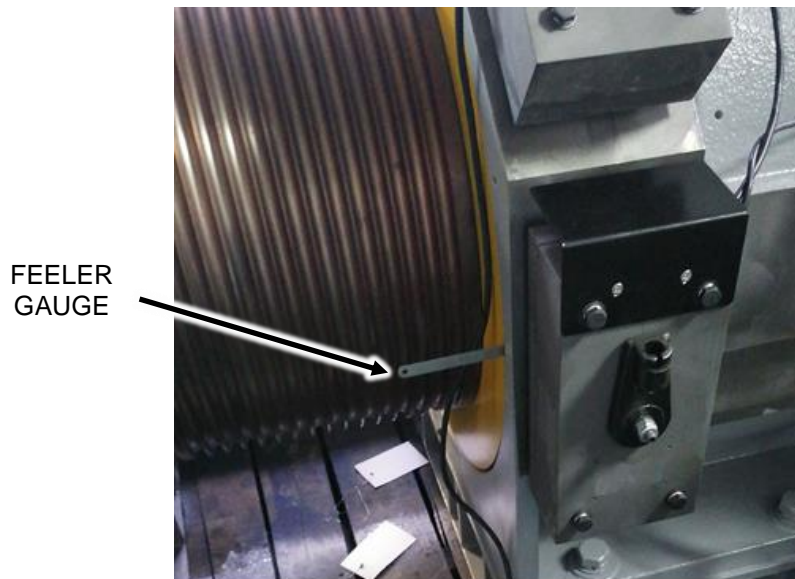

Figure 17
- If brake pad wear is excessive replace the brake pad or replace the entire brake assembly. See Figure 17.